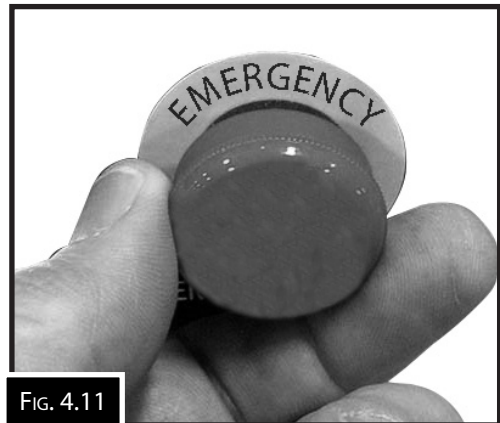

FIG. 4.11
12. Twist EMERGENCY STOP button clockwise to reset it. (Fig. 4.11)